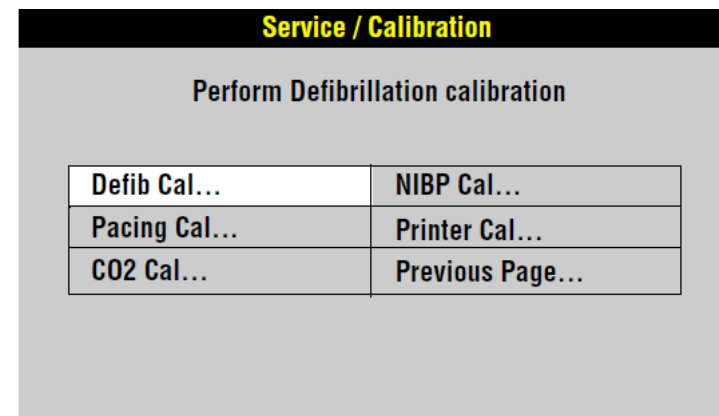

Figure 2.2—Calibration submenu
2. Select CALIBRATION from the Service menu to display the Service/Calibration submenu as shown in Figure 2.2